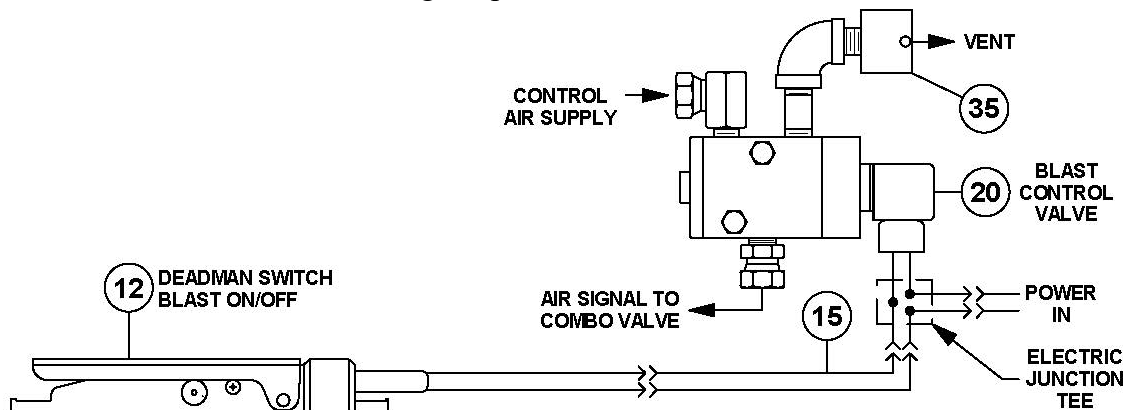

Figure 5.5 – Thompson Valve Electric Blast Control System
5.9.2. Electric Deadman System: When the electric deadman lever is pressed down it closes the electric circuit and supplies electric current to the control valve (#20). The control valve opens and sends air signals to the auto air valve (#9) and the Thompson® Valve (#14). When the deadman lever is released the electric circuit is cut off closing the control valve. The signal air vents from the breather (#35). See Figure 5.5 and the drawing in Section 9.2.